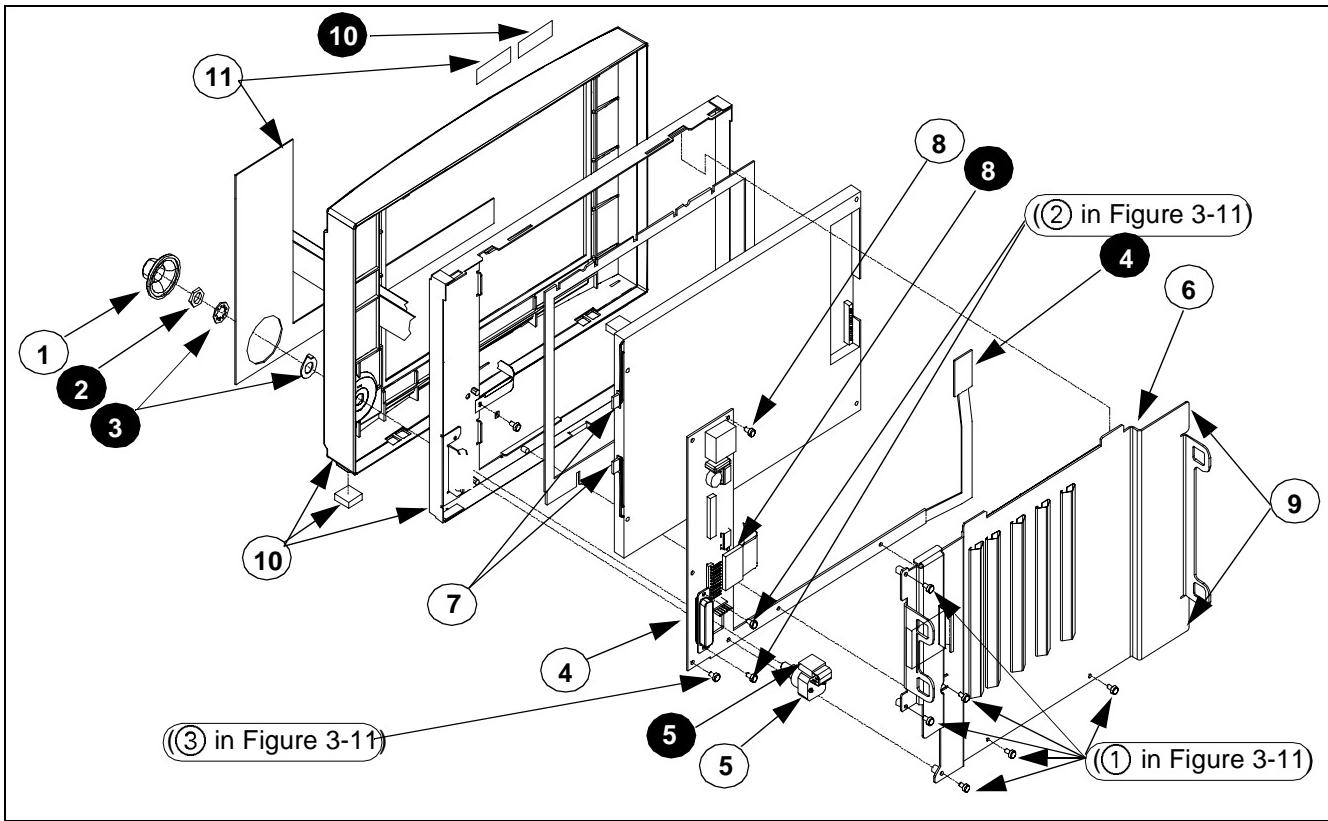
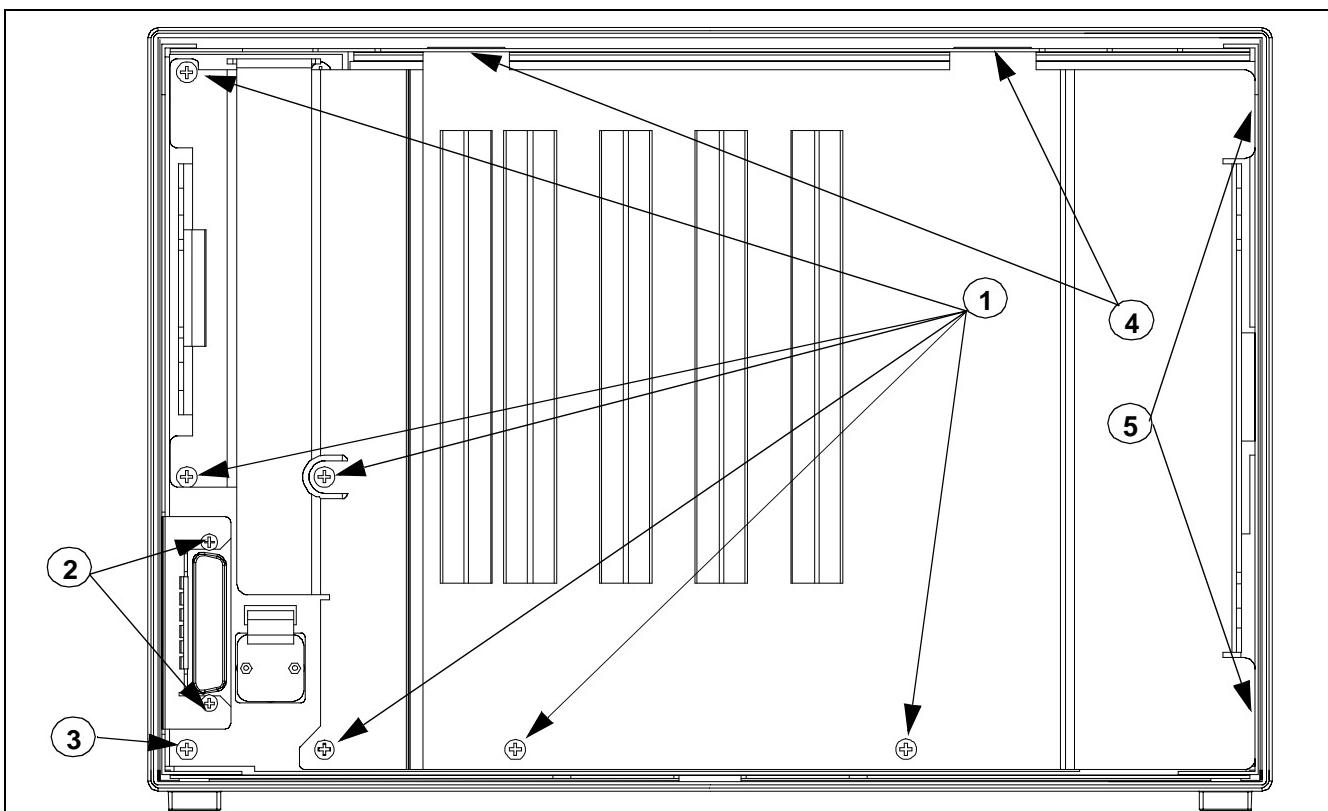
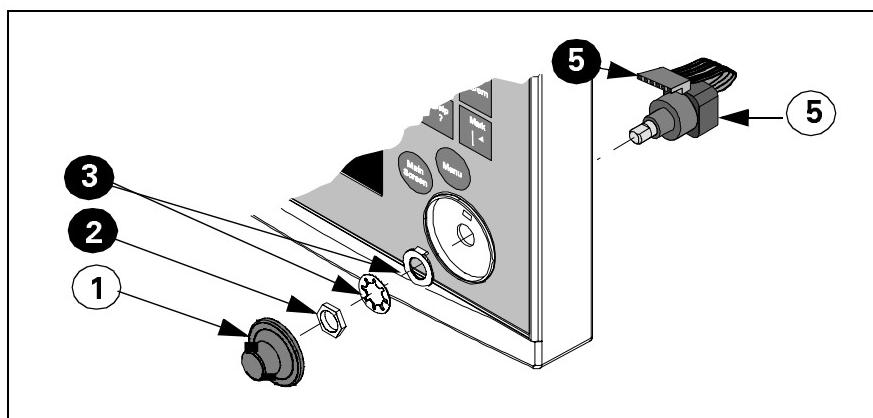

Figure 3-10 Front Bezel Subassembly Components. Note: Numbers in white circles call out replaceable parts. Numbers in black circles are referenced in text.
Figure 3-11 Front Bezel Subassembly - Interior View
Figure 3-12 Optical Encoder Subassembly. See Note in Figure 3-10 caption.
- Front Bezel PCB Subassembly (④) in Figure 3-10 on page 51)
- Optical Encoder Subassembly (①, ②, ③, and ⑤ in Figure 3-10 on page 51, also see Figure 3-12 on page 52)
- Front Bezel/Lens Subassembly (⑩ in Figure 3-10 on page 51, includes bezel w/ lens, display subassembly mounting frame, metal logo, and feet)
- 1) With front bezel subassembly laying face down on a smooth clean surface, remove and save six securing screws (see ① in Figure 3-11 on page 51) from retainer plate.
- 2) Move retainer plate slightly left to slide tabs on right hand side of plate (⑨ in Figure 3-10 and ⑤ in Figure 3-11 on page 51) out of tab slots in side of front bezel frame.
- 3) Lift bottom edge of retainer plate and slide plate out of tab slots (④ in Figure 3-11 on page 51) in top of front bezel frame.
- 5) Remove rotary knob (① in Figure 3-10 on page 51 and in Figure 3-12).
- 6) Unplug optical encoder ribbon cable connector (5 in Figure 3-10 on page 51 and Figure 3-12 on page 52) from Front Bezel PCB.
- 7) Refer to Figure 3-10 or Figure 3-12. Unscrew nut 2 securing optical encoder shaft in position in front bezel, and remove optical encoder subassembly (5) through back of panel. Save nut, and lock washer / positioning washer combination 3 for use in reassembly.
- 8) Refer to Figure 3-10. Unplug membrane switch ribbon cable connector 8 and display backlight connectors 7 from Front Bezel PCB, and display screenflex cable connector 4 from display screen subassembly PC board.
- 9) Slide small screwdriver under tab near bottom on right hand side of display subassembly, and carefully lift display subassembly (4) in Figure 3-10 out of front bezel frame. Set subassembly aside on a **clean** flat surface for use in reassembly.
- 10) Remove and save two screws (2) in Figure 3-11 on page 51 securing Front Bezel PC Board interface connector to mounting tabs on front bezel frame.
- 11) Remove and save two remaining screws (3) in Figure 3-11 and (8) in Figure 3-10 securing Front Bezel PC Board to front bezel frame.
- 6) Refer to Figure 3-10 on page 51. Plug display screen flex cable connector **④** into display screen subassembly PC board, and display backlight connectors **⑦** and membrane switch ribbon cable connector **⑧** into Front Bezel PC Board.
- 11) Slide retainer plate tabs into tab slots (**④** in Figure 3-11 on page 51) in top of front bezel frame.
The backlight fluorescent lamps are located inside the display screen subassembly (7) in Figure 3-10 on page 51. Replace lamps as follows:
- 1) With front bezel subassembly separated from rear housing and laying face down on a smooth clean surface, remove and save six screws (1) in Figure 3-11 on page 51) from retainer plate (6) in Figure 3-10.
- 2) Move retainer plate slightly left to slide tabs on right hand side of plate (9) in Figure 3-10 and (5) in Figure 3-11 on page 51) out of tab slots in side of front bezel frame.
- 3) Lift bottom edge of retainer plate and slide plate out of tab slots (4) in Figure 3-11) in top of front bezel frame, and set aside for reassembly.
- 4) Unplug display screen flex cable connector (4) in Figure 3-10) from display screen subassembly PC board. Note pad that keeps connector in place.
A replacement Front Bezel/Lens Subassembly ships with an installed lens, mounting frame, Siemens Metal Logo, and feet. The Language Label Set which includes SC 7000 and SC 9000XL Monitor Model Labels (see (10) in Figure 3-10 on page 51) must be ordered separately,